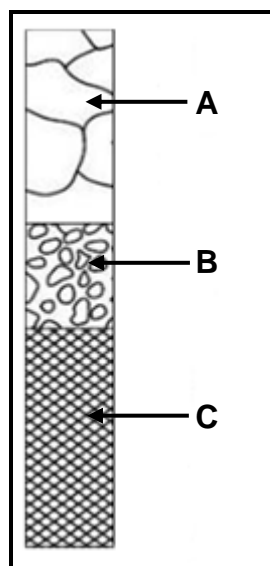

FIGURE 3.2
3.2 FIGURE 3.2 below shows the annealing process during heat treatment. Label components **A–C**.